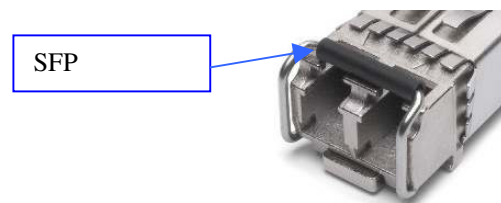

Figure 6-5
2. Turn the handle up until it clicks to the home position (ref: Figure 6-5)